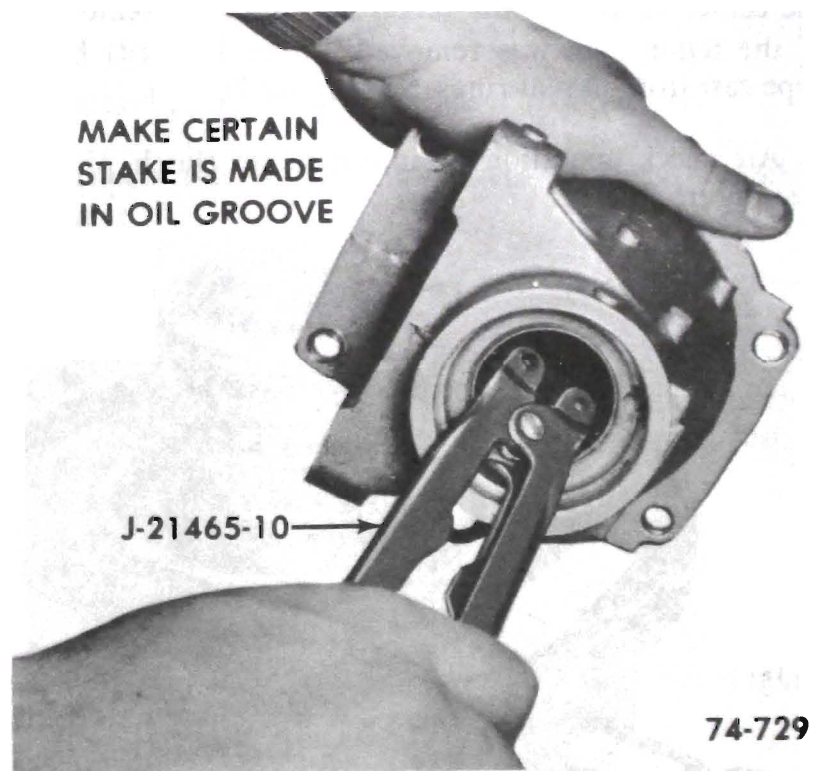

Figure 76-236
c. Using J-21465-10, stake bushing in oil grooves. See Figure 76-236.